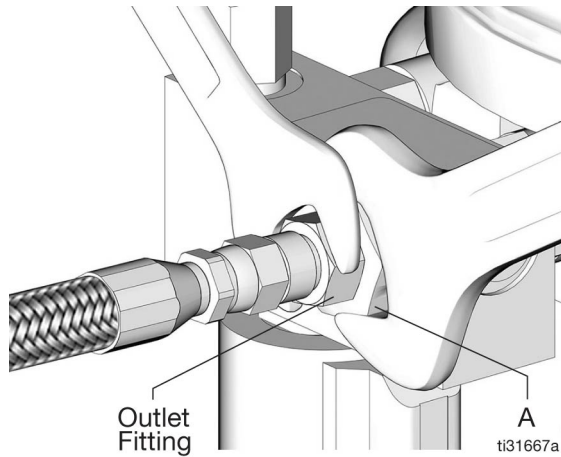

FIG. 30
1. Loosen the pump outlet fitting (FIG. 30).